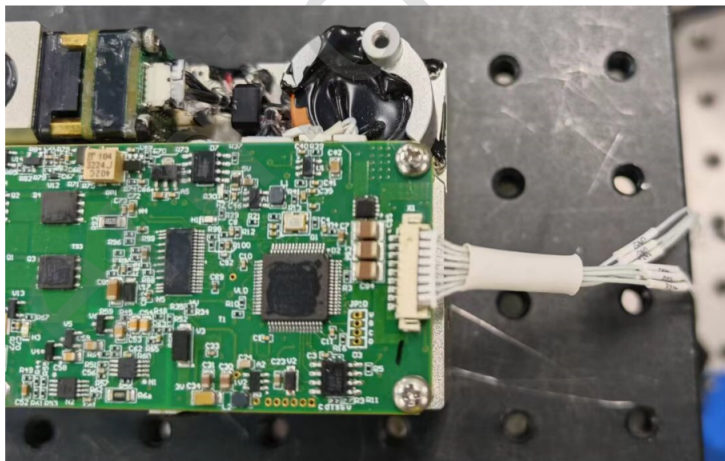

Figure 4 Device Terminal Connection
The specific procedure is shown in Figures 4, 5, and 6 below:
- ▶ Connect the standalone test cable plug to the laser device's corresponding 9-pin socket, as shown in **Figure 4**.
- ▶ Connect the **standalone test cable plug** to the laser device's corresponding 9-pin socket, as shown in **Figure 4**.